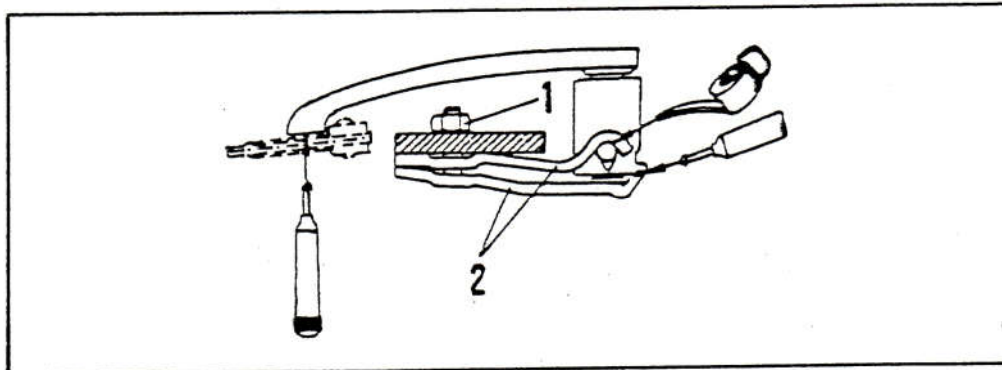
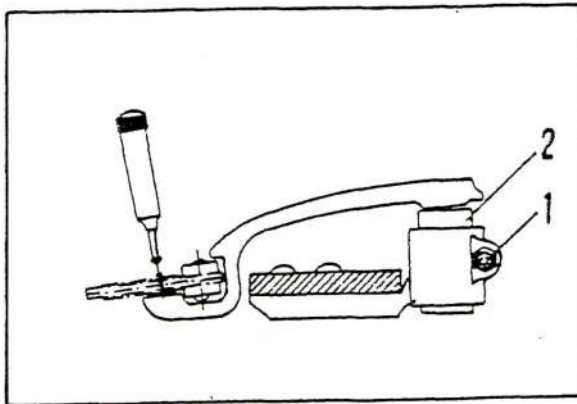
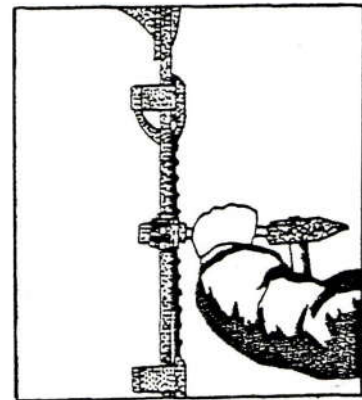

Figure 9
Figure 10
Figure 11
The upper handles are mounted in springs (Fig. 9, Item 2) and are fitted with a screw and self-locking nuts (Figure 9, Item 1) attached to the base lath.
The pressure of the lead handles on the upper pair of knives is about 12 - 14 daN per handle, which is achieved by tightening or unscrewing the nut (item 1, figure 9). The space between the springs needs to be cleaned more frequently and all the friction points are regularly lubricated and soaked.
CAUTION: Turning the nut (item 1, fig. 9) for half a circle corresponds to a pressure force of about 4 daN.
The lower handles (figure 10, item 2) are mounted on the brackets in which they can be adjusted in terms of height (Figure 11).
The space between the guides of the knives and the lower levers should be occasionally lubricated. The upper and lower leading handles of the blades (Figure 9, and Figure 10) must not touch the back surface of the cutting rod knives.